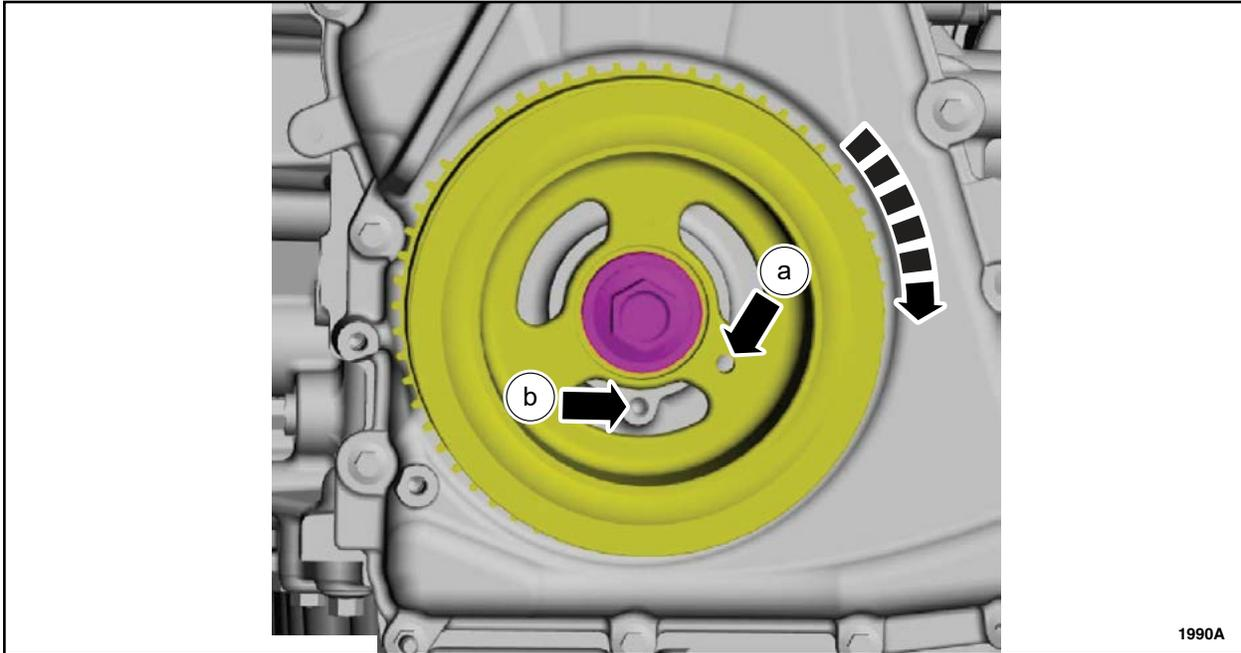

FIGURE 1
- Using the crankshaft pulley bolt, rotate the engine crankshaft clockwise and bring the engine to Top Dead Center (TDC) by using an inspection mirror and aligning the hole in the crankshaft pulley (a) to the threaded hole in the engine front cover (b) as shown in Figure 1.